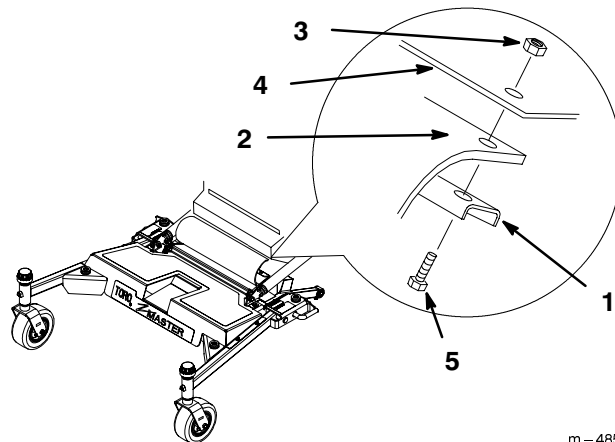

Figure 27
11. Remove the two nuts and bolts that hold the bar for rubber guard. The bar is under the motion control levers. Fold the rubber guard onto the footrest (Fig. 27).